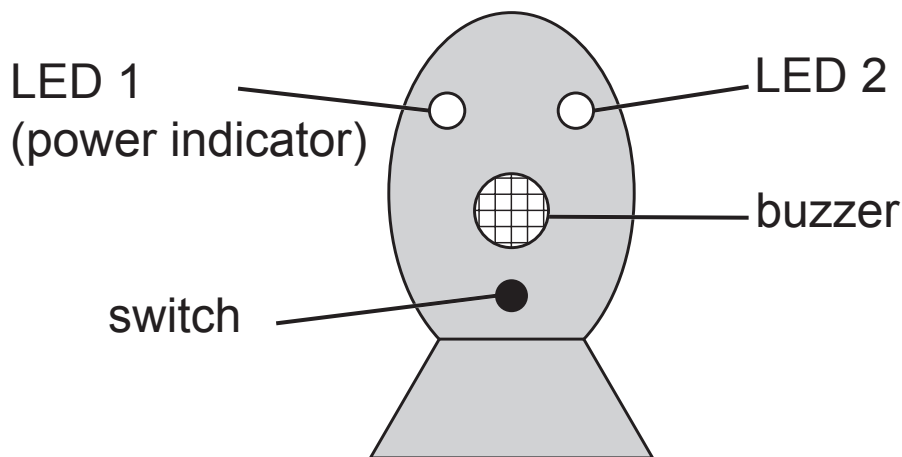

Fig. 6
- 9 **Fig. 6** shows a sketch of an egg timer which is programmed to operate in a specific sequence.